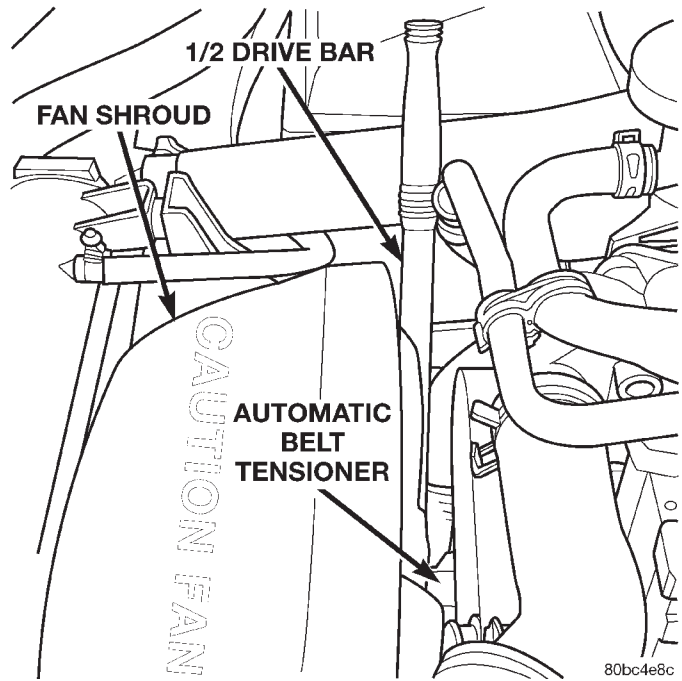

Fig. 27 Removing The Accessory Drive Belt
- (1) Disconnect the negative battery cable.
- (2) Insert a 1/2 drive breaker bar or ratchet in the automatic belt tensioner pulley (Fig. 27). Rotate the pulley counter clockwise to relieve the belt tension and remove the belt from the vehicle.